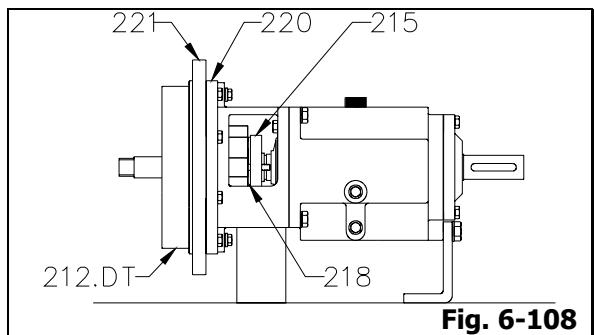

Fig. 6-108
19. Coat stuffing box cover "O" ring (420) seat surface in frame adaptor (220) and seal cover extension "O" ring (429) with oil. Install stuffing box cover (212.DT) assembly onto frame adaptor (220) or adaptor extension ring (221) by allowing seal cover extension (218) assembly go into stuffing box cover (212.DT) and seal cover studs go through two (2) bolt holes on seal cover (215). Align bolt holes and install stuffing box cover bolts (where applicable). Tighten bolts evenly (Fig. 6-108).